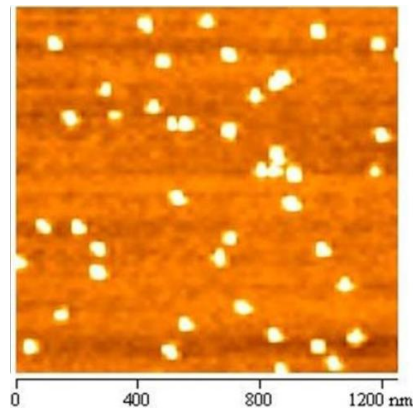

Fig. 2
- V. Perform Remote AFM Characterization (Figure 2)